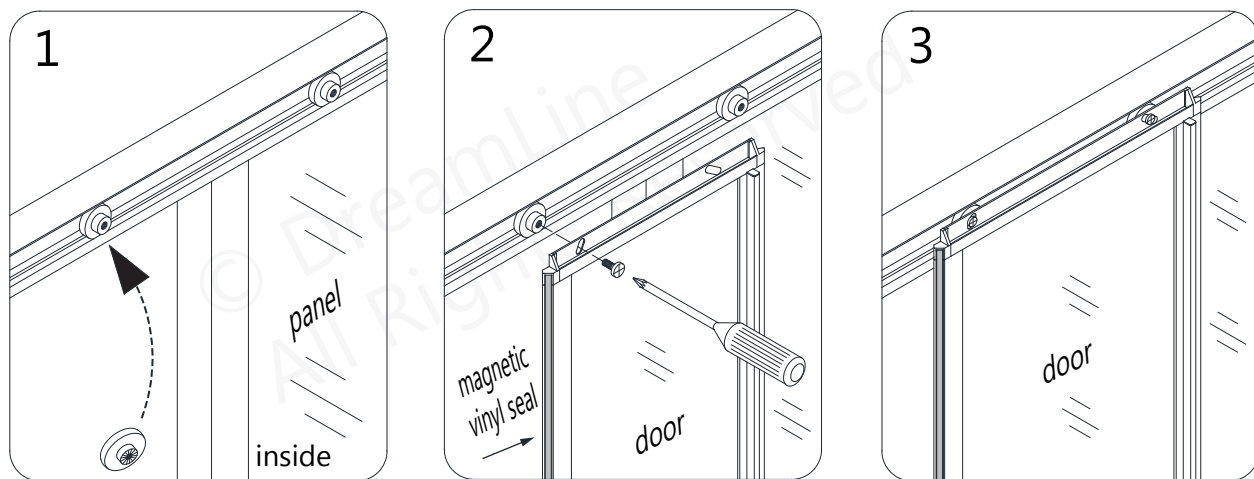
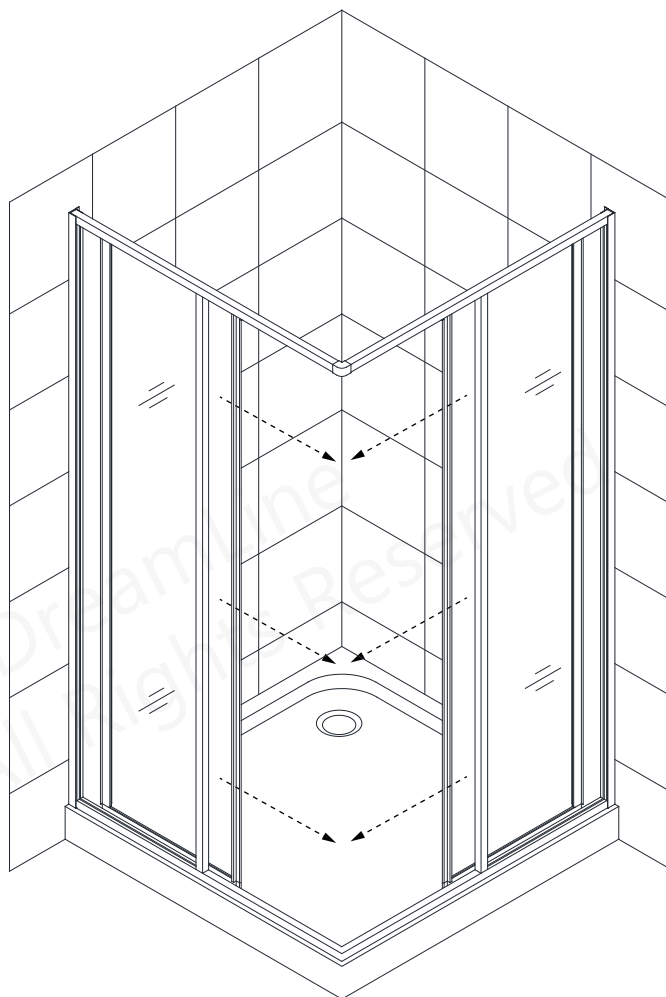

Fig 5a
Fig 5b
5. Insert the **Roller Wheels (#11)** into the groove of the **Upper Guide Rail**, then attach the **Door Glass Assemblies (#03)** to the **Roller Wheels (#11)** using the **M5×8 Bolts (#10)**. Repeat this procedure to attach the **Door Glass Assemblies (#03)** to the **Roller Wheels (#11)** in the **Bottom Guide Rail**. Be sure to install the doors so that the magnetic vinyl seals will meet in the corner. (See Step#6 for details regarding adjusting the rollers.) **(Fig 5a and Fig 5b)**